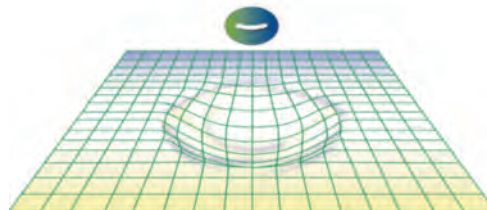

Figure 2: Schematic representation of charge-induced interaction on the PGC surface
- 2) Charge-induced interactions of a polar analyte with polarizable surface of graphite (Figure 2).